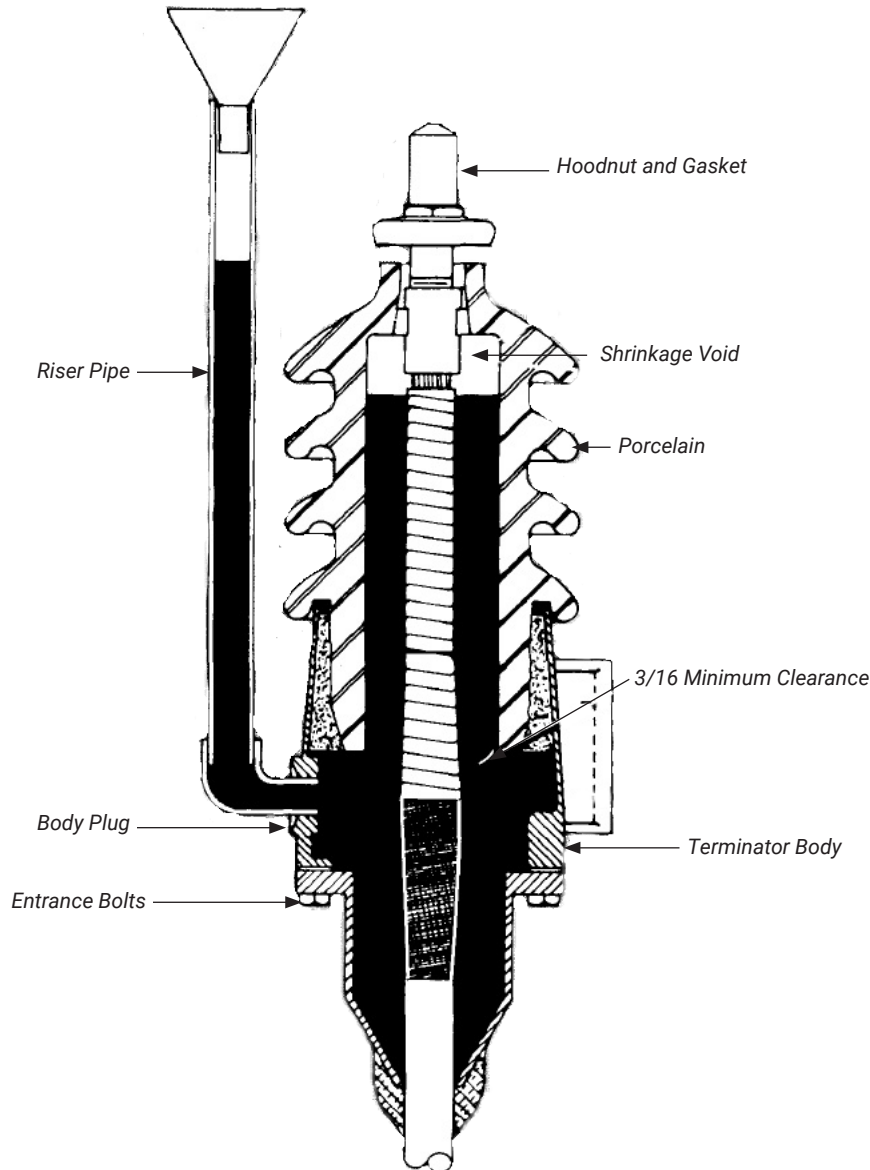

Figure 1
5. Use a large diameter riser pipe (see figure 1 ). The pipe should extend approximately one foot above the high point of the porcelain to provide a static pressure head. The riser pipe should be the same size as the pipe boss or larger.